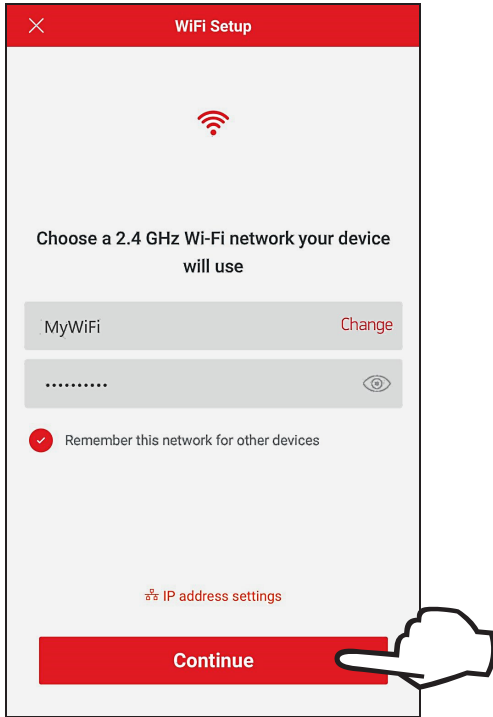

Figure 92. WiFi Setup
- The "Wi-Fi setup" screen will appear. Select or enter the Wi-Fi network you want your unit to be connected to and enter the network password. See **Figure 92**.